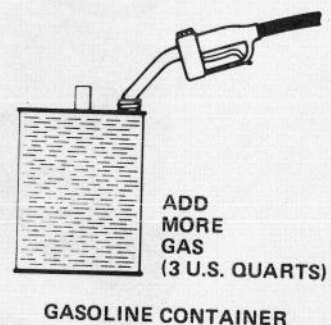
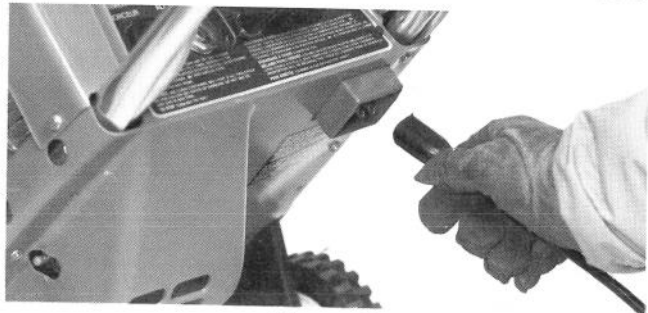

Figure 7
Figure 9
1. Add 1 U.S. quart of leaded or unleaded **REGULAR** gasoline to a gasoline container (Fig. 7).
2. Pour 1/2 cup – 4 oz – of two cycle engine oil into the gasoline container (Fig. 7). **DO NOT** use multi-viscosity oils.
3. Shake the gasoline container vigorously so oil mixes with gasoline (Fig. 7). Remember to install cap on gasoline container before shaking.
4. Add an additional 3 U.S. quarts of gasoline to the premixed gasoline (Fig. 7). Fuel mixture is now ready to use in your S200 Snowthrower.
To start S200 Electric Start, plug in extension cord (Fig. 9) and push start button (Fig. 7). If engine does not start within 10 seconds, repeat priming and starting procedure until the engine starts.